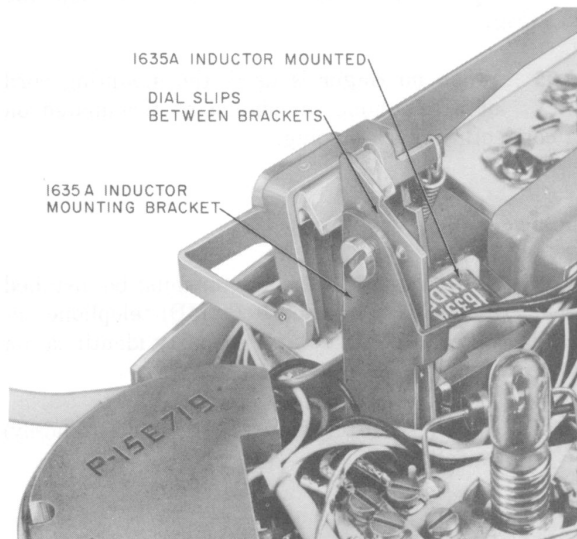

Fig. 7—1635A Inductor Mounted in 701B (MD) Telephone Set
- (4) Install inductor as shown in Fig. 7.
- (5) Replace screw in dial mounting bracket.
- (6) Connect inductor between terminals B of network and 3 of terminal board.
- (7) Replace dial and housing.